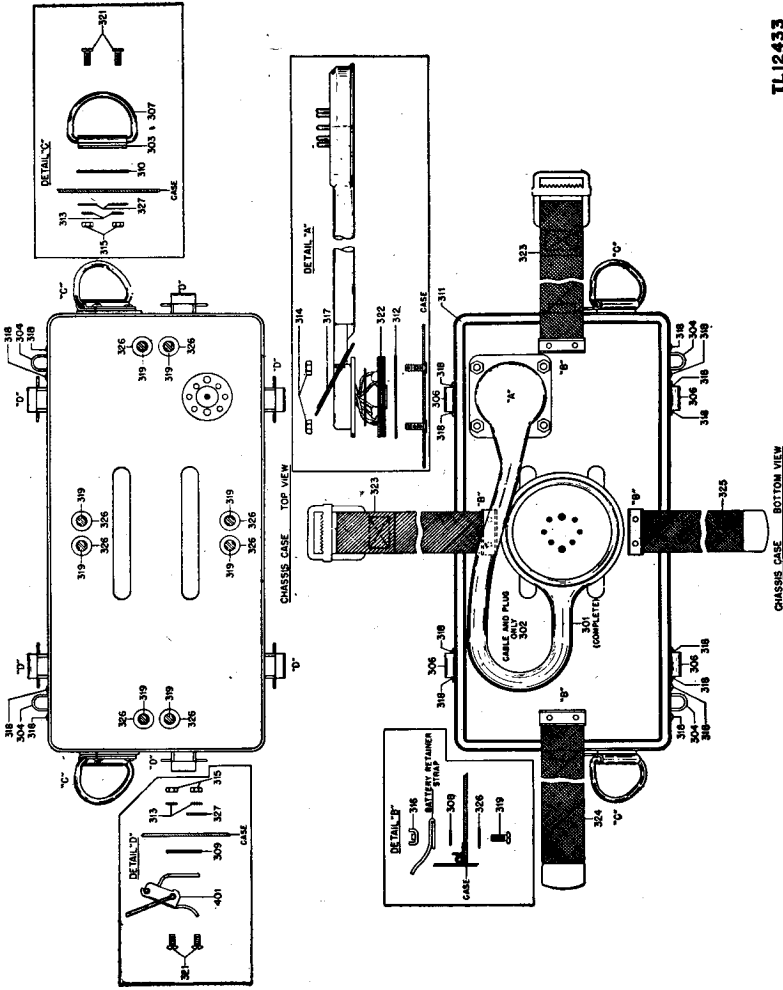

Figure 81. Chassis case, parts location.
*c. CHASSIS CASE.* Assembly details of screws and washers used on the chassis case are shown in top and bottom views of figure 81.